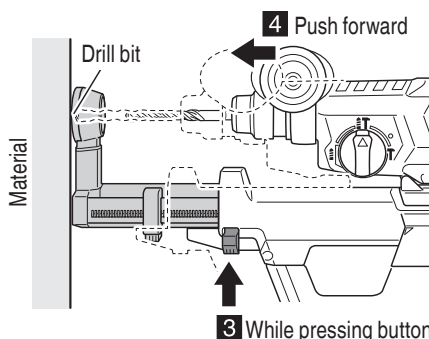

Fig. 12
- (3) While pushing the nozzle adjustment button in the direction of the arrow, press the tool toward the material, allowing the nozzle position to shorten until it reaches the position where the drill bit comes into contact with the material. (Fig. 12)